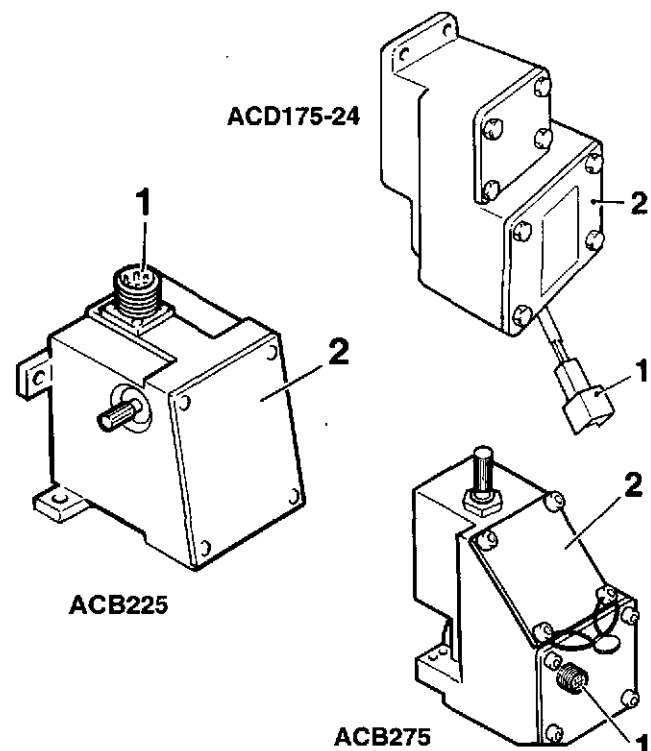

Fig. 7. Actuators, type ACB225, ACB275 and ACD175-24
1. Remove the cover from the actuator (pos. 2, fig. 7).